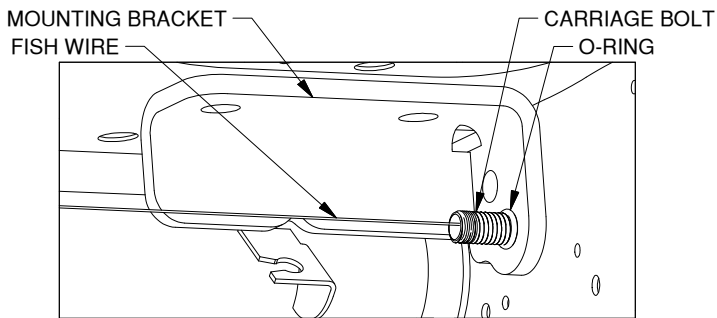

Figure B3: Looking at mounting bracket installation.
4. **Pull fish wire through frame.** With the fish wire through the locking strap push the locking strap completely into the frame. Next, pull the carriage bolt into the frame. Continue pulling on the fish wire until the threaded portion of the bolt is sticking out of the frame. Thread the mounting bracket and an O-ring over the fish wire and onto the bolt. Push the O-ring tight against the bracket, see Figure B3. This will prevent the bolt from accidentally falling back into the frame. The O-ring will stay on the bolt after the washer and nut are installed and tightened.